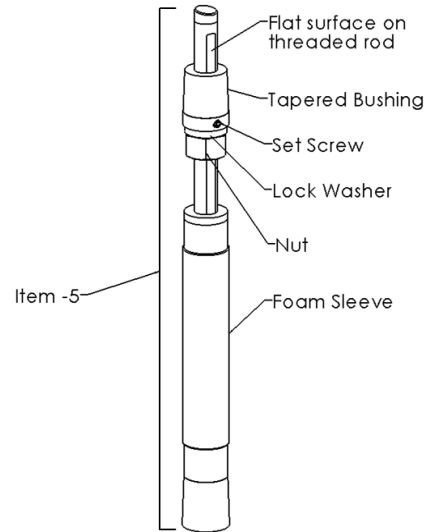

FIGURE 3
10. Before securing the pole product between the floor and the ceiling, make sure the set screw is aligned with the flat surface on the threaded rod. **IMPORTANT:** Set screw should not be tightened at this point. The tapered bushing must be able to slide up and down the threaded rod. (See Figure 3)
- After pole is secured between the floor and the ceiling, use the Allen wrench (Item-8) to tighten the set screw against the flat surface of the threaded rod. (See Figure 3)
- Slide foam sleeve upwards to cover the threaded rod and tapered bushing described in Figure 3.